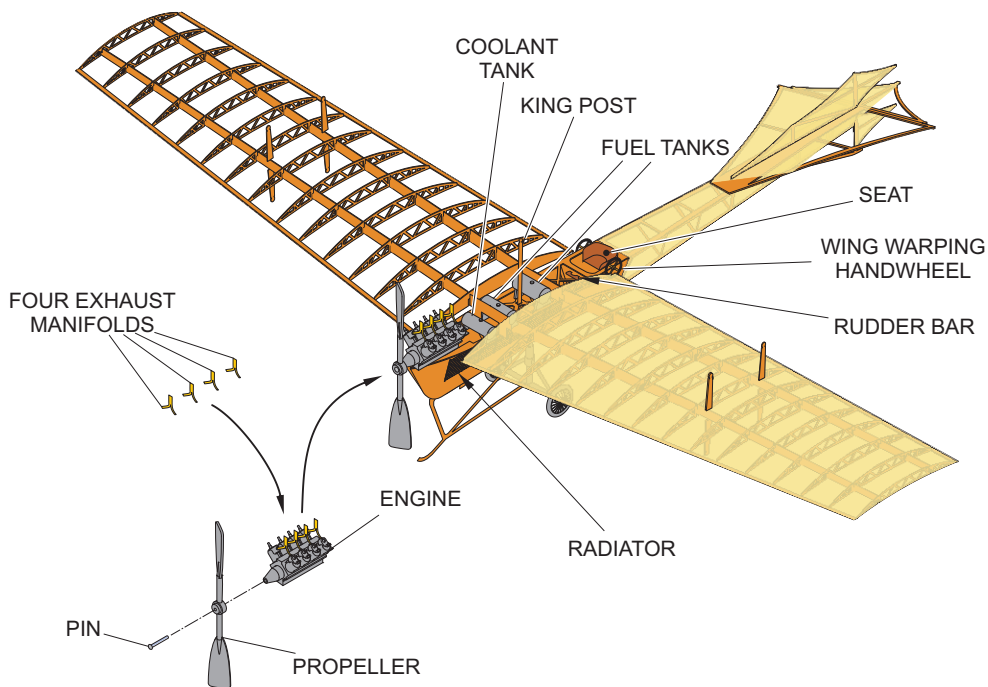

Figure 7
- B Attach a radiator to each side of the forward fuselage as shown in Figure 7.
- (1) Attach the rudder bar in the cockpit.
- (2) Fold the seat, then attach it in the cockpit.
- (3) Attach a wing warping handwheel to each side of the fuselage.